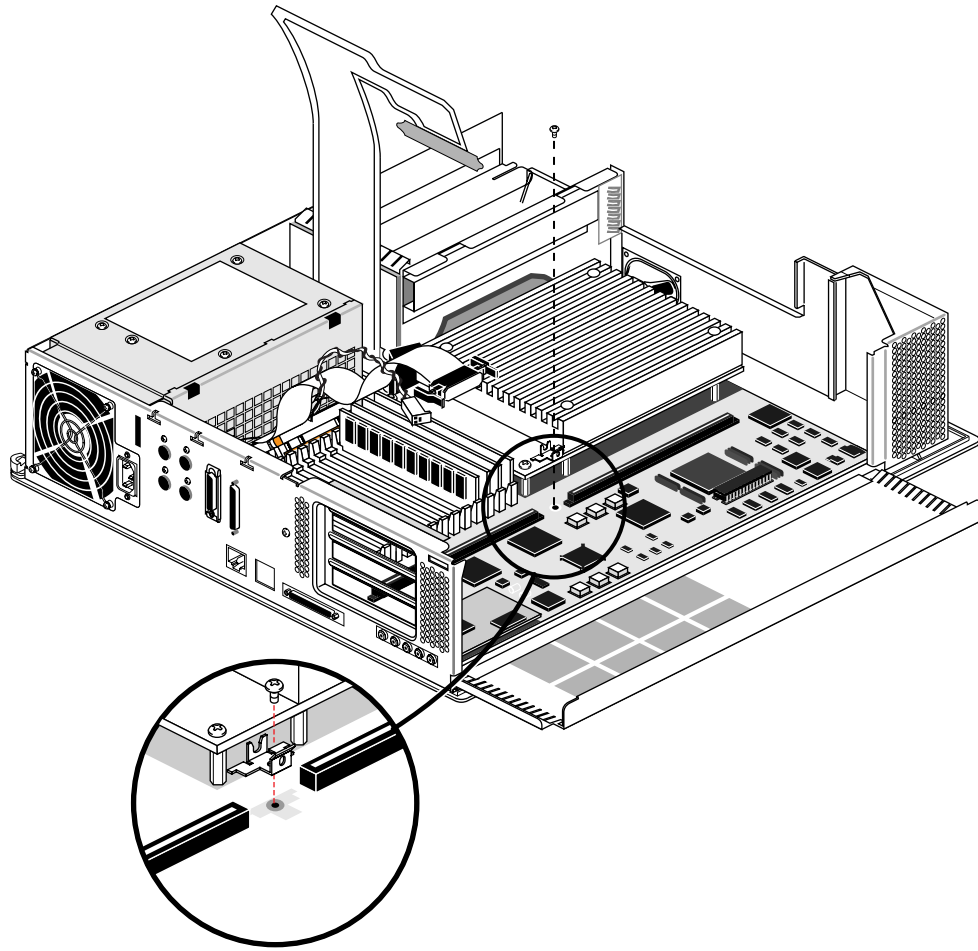

Figure 2-13 Indigo² IMPACT Backplane to Motherboard Adapter Bracket
7. Install the new backplane adapter bracket onto the motherboard using the screw from the old backplane. Note that the “tongue” of the bracket is closest to the graphics boards, while the “forked” piece is closer to the CPU and drives. See Figure 2-13.